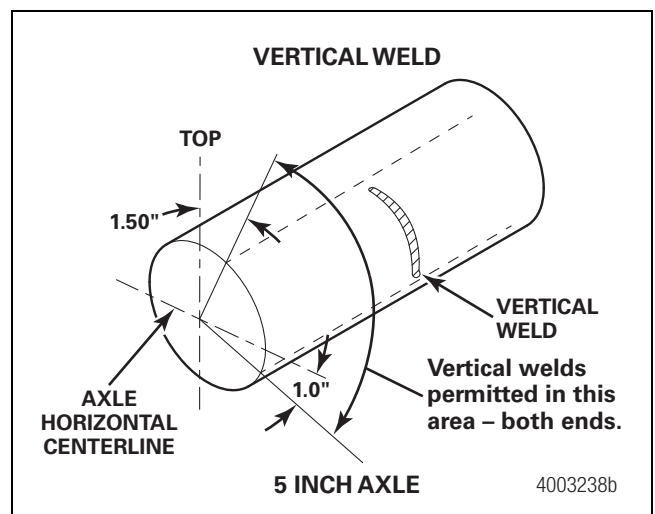

Figure 7.8
- Vertical welding is not allowed on 5-inch (127 mm) diameter axles more than one-inch (25.4 mm) below the axle horizontal centerline. Figure 7.8.